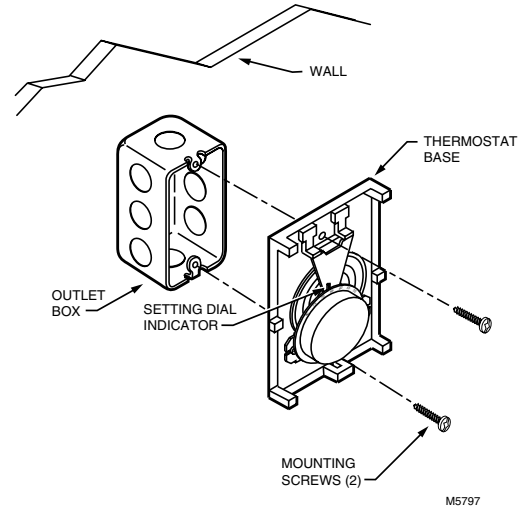

Fig. 4. Mounting thermostat to outlet box.
8. Mount the thermostat on the outlet box as shown in Fig. 4. Secure the thermostat by tightening the two mounting screws.
- 7 Mount the thermostat on the outlet box as shown in Fig. 4. Secure the thermostat by tightening the two mounting screws.